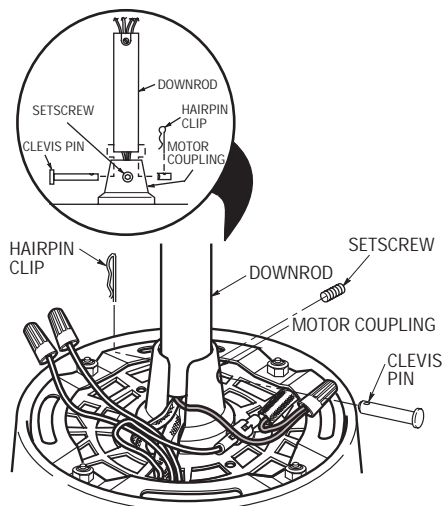

Figure 11
17. Separate, untwist and unkink the 80" white, black, and blue motor lead wires. Route the three motor leads and the 80" yellow lead wire (used only on fans with uplight) through the downrod. Seat the downrod firmly in the motor coupling (Figure 11).
18. Align the clevis pin holes in the downrod with the holes in the motor coupling. Install the clevis pin (supplied with the ceiling fan) and secure with the hairpin clip (Figure 11). The clevis pin must go through the holes in the motor coupling and the holes in the downrod. Push the straight leg of the hairpin clip through the hole near the end of the clevis pin until the curved portion of the hairpin clip snaps around the clevis pin.
19. Install the setscrew (supplied with ceiling fan) in the motor coupling (Figure 11). While pulling up on the downrod, tighten the setscrew using the 5/32" setscrew wrench (supplied with ceiling fan).